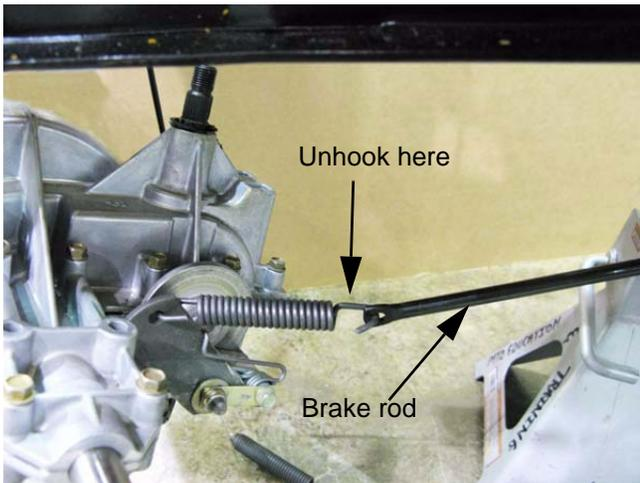

Figure 6.83
13. Move the transaxle forward to make some slack in the brake linkage. Use the slack to unhook the brake spring from the brake rod. See Figure 6.83.